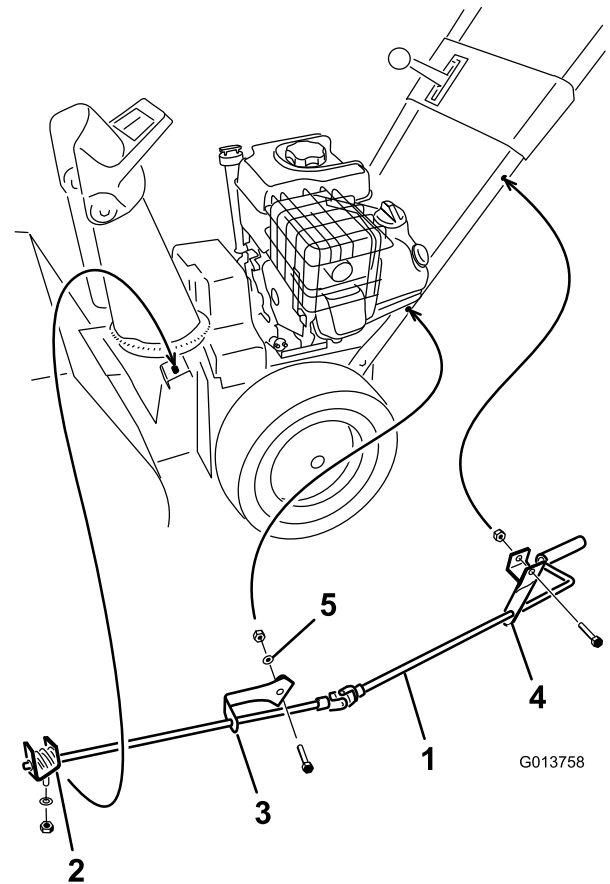

Figure 10
1. Secure the upper chute control bracket (attached to the chute control rod) to the upper left side of the handle with a bolt and a locknut Figure 10.
2. Secure the lower chute control bracket (attached to the chute control rod) to the lower left side of the handle with a bolt, a curved washer, a flatwasher, and a locknut (Figure 10).
- Tighten the locknuts that secure the 2 chute control brackets (Figure 10).